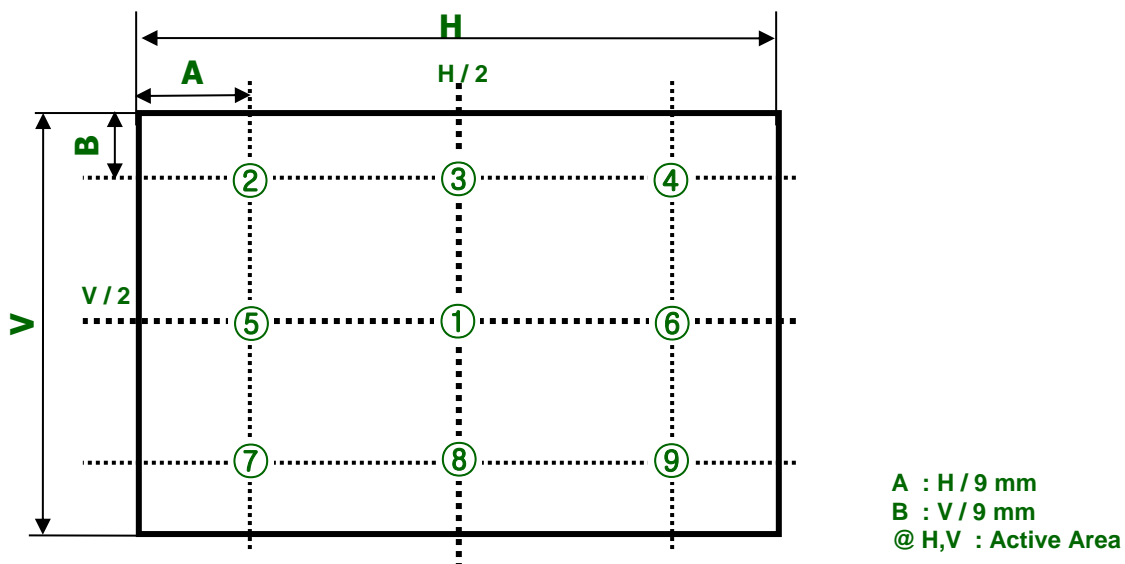

FIG. 2 9 Points for Luminance Measure
2. Optical Characteristics is determined after the unit has been 'ON' and 1 Hour after lighting the backlight in a dark environment at $25 \pm 2^\circ\text{C}$. Surface luminance is the luminance value at center 1-point across the LCD surface 50cm from the surface with all pixels displaying white. For more information see the FIG. 2
For more information, see the FIG. 2.